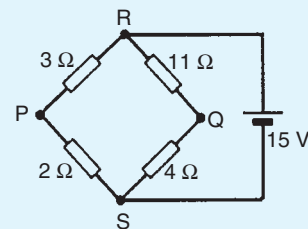

Figure 13.93
8. With reference to Fig. 13.93, which of the following statements is correct?
9. In Fig. 13.93, if the 15 V battery is replaced by a short-circuit, the equivalent resistance across terminals PQ is: